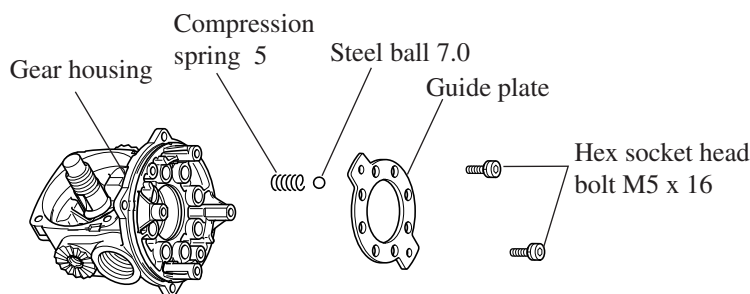

Fig. 16
- ( 4 ) Take off 2 pcs. of hex socket head bolts M5 x 16 which is fastening guide plate. And then, disassemble steel ball 7.0 and compression springs 5 from gear housing as illustrated in Fig. 16.